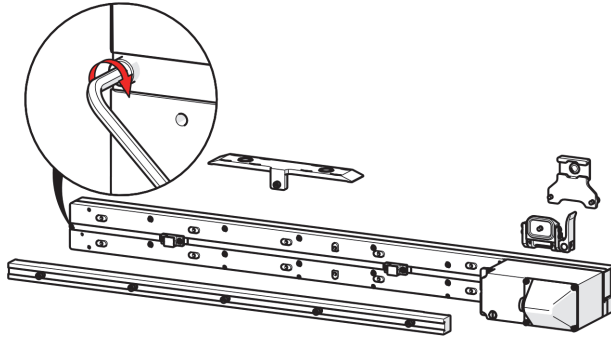

Figure 2-53 Replace socket head cap screw
11. Replace the socket head cap screw at the end of the raster arm (see Figure 2-53 on page 83).